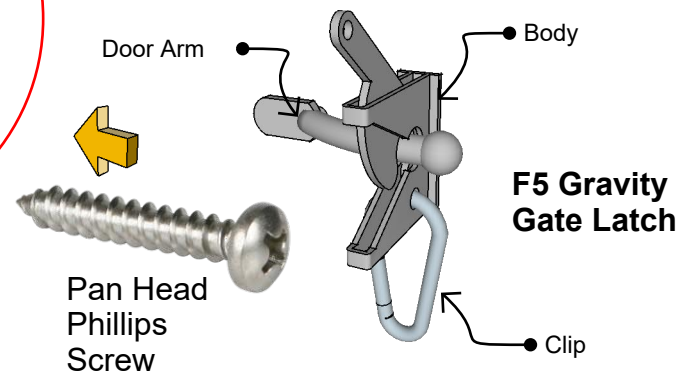

Fig 7
7.3 Install Poultry Nipples: Fig 7.3 illustrates installation of the standard poultry nipple. After inserting nipples, insert waterer into position as indicated in Fig 7 roasting as needed for nipples to clear then fill after inserted and resting in the waterer bracket installed in Fig 7.1